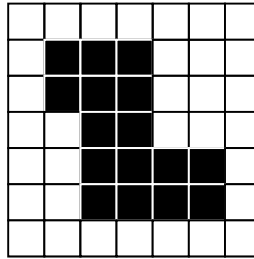

Figure 4[c]
- [c] Determine the run code for the object shown in Figure 4[c]. hence, using the run code, determine the centroid of the object.